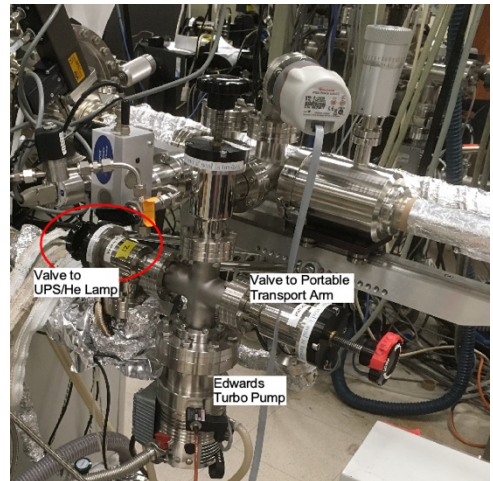

Figure 1 Load Lock turbo with valves to the UPS lamp and to the Portable transport arm flange.
- 4) Open the load-lock turbo-to-UPS differential pumping valve located behind the load lock on the right (looking toward the EELS). Turn it fully counterclockwise until it stops, Figure 1.
- 8) Turn on the power to the UPS control box, found on the back panel of the Kratos, Figure 1.